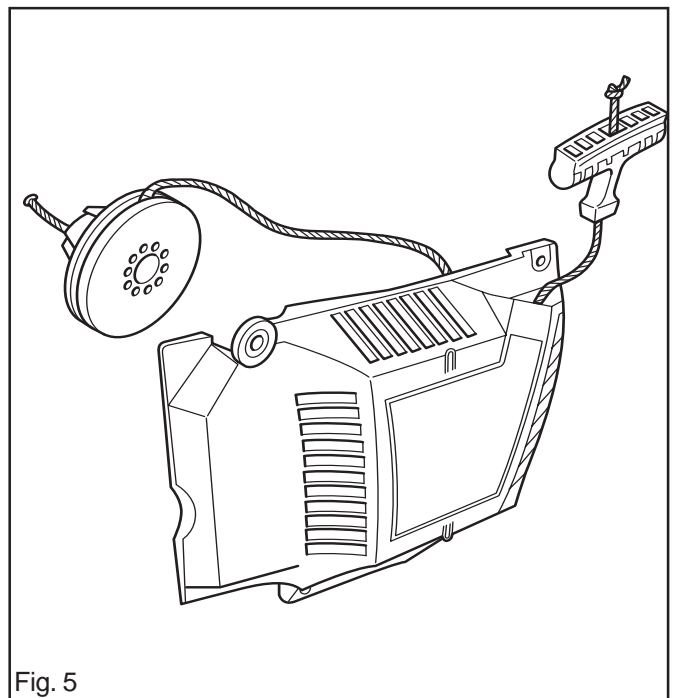

Fig. 5
3. If a new cord is to be fitted, push the free end in the hole in the starter pulley. Take hold of the end with pointed pliers inside the pulley and pull up the cord. See fig. 5.
4. Grease the starter pulley bearing and spring, and fit the pulley on the spindle. Turn gently backwards and forwards until the spring catches on the stop in the housing. See fig. 5.
6. Pull out the cord through its hole in the housing and fit the handle and secure it with a double knot. See fig. 5.
2. Fit the flywheel washer and nut. Tighten the nut to 35 Nm. See fig. 5.